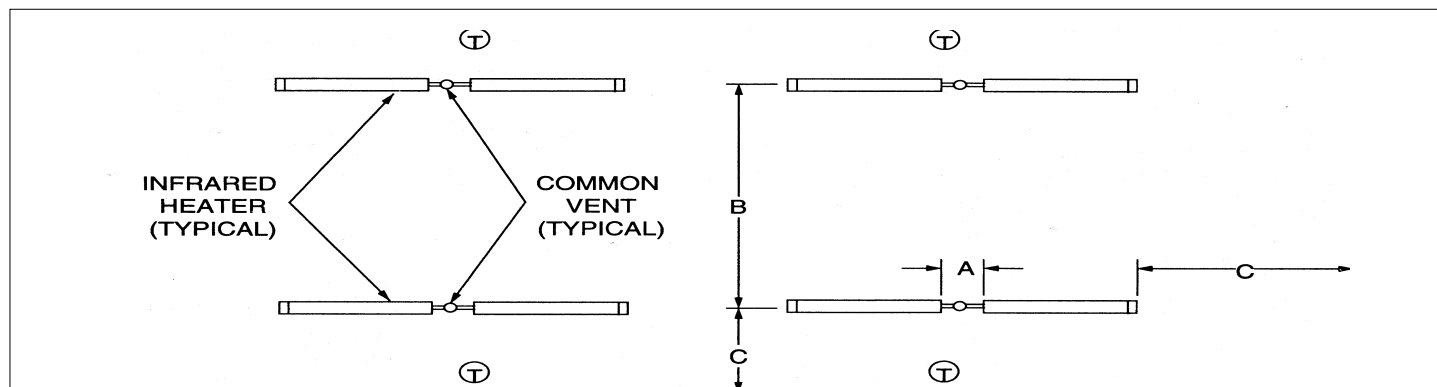

Figure 1-1
Perimeter mounting of these infrared heaters provides for the most efficient installation. In Figure 1-1, the heaters are mounted at the perimeter of the space to be heated. Refer to the DTHS
- **Do not** combine the exhaust vents of two heaters into a straight through tee. A Part No. Y or staggered tee arrangement **must be** used. Heaters sharing the same vent must share the same thermostat. Common vents must have a 6 in. diameter. Common vents must have a 6 in. diameter flue (see Figure 1-1).